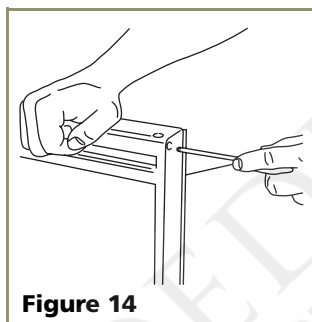

Figure 14
3. Remove two outside screws holding door handle. Slightly separate door handle from door (see **Figure 14**).